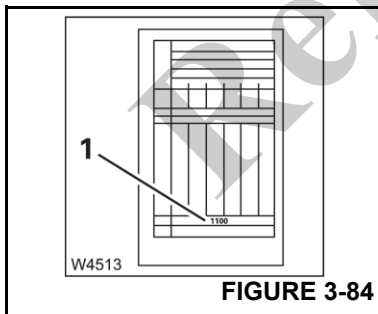

FIGURE 3-84
Refer to the Load Chart for the current rigging mode. The corresponding RCL code (1) (Figure 3-84) is specified at the bottom of the table (e.g. 1100).